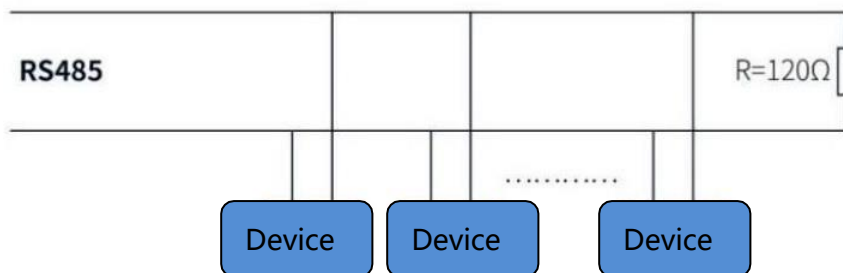

Figure 12 RS485 Connection Method
- When using RS485 protocol to connect multiple devices, please refer to the connection method shown in Figure 12 below (CAN resistance is removed)